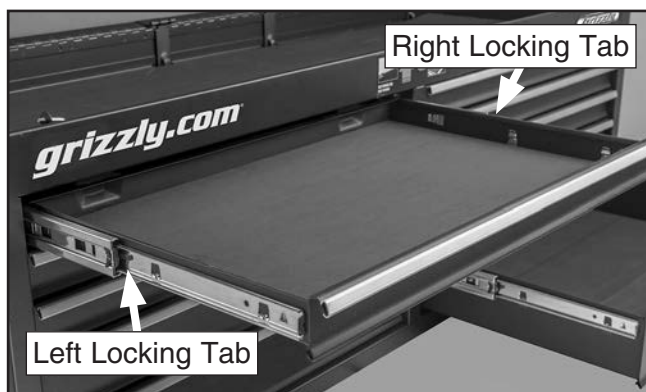

Figure 3. Location of drawer locking tabs.
3. Push left locking tab down and hold, then pull right locking tab up and hold (see **Figure 3**).